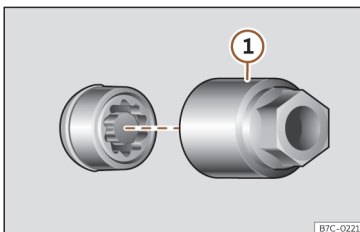

Fig. 33 Anti-theft wheel bolt with cap and adapter.
- Insert the special adapter >>> Fig. 33 ① (vehicle tools) >>> page 41 onto the anti-theft wheel bolt and push it on as far as it will go.